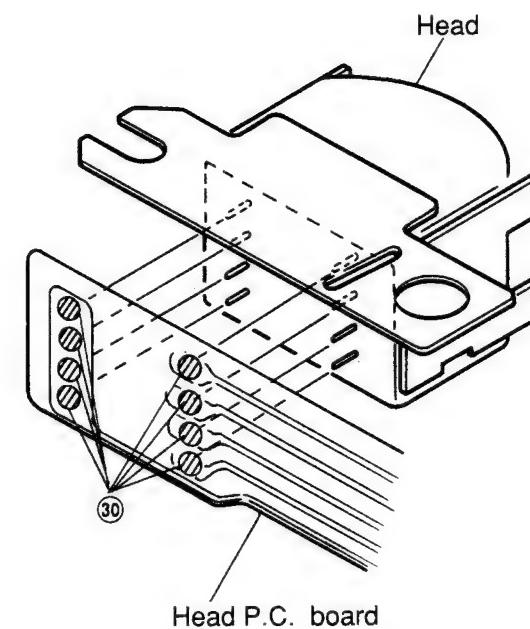

Figure 22
- (2) Remove solder ⑩ and remove the head from the head P.C. board as shown in Figure 22.
- (3) After replacement, mount the new head following the removal steps in the reverse order.